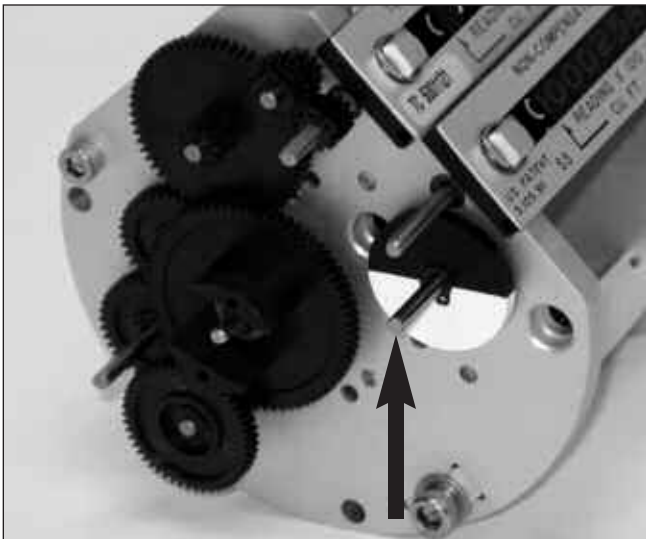

Figure 7 - Movement of the RPM wheel indicates impeller rotation.
- b) Partially open the meter inlet gas valve until the meter starts operating at low speed. Throttling the bypass valve may be necessary to initiate gas flow through the meter. Verify gas is flowing through the meter by watching for movement of the black-and white RPM wheel on the Accessory Unit. The wheel, shown in Figure 7, is visible from either the front or the side of the Lexan® cover on a standard counter meter. If movement is present, go to step c). If the RPM dial is not turning, verify gas is being delivered to the meter. If gas is flowing to the meter inlet and the RPM wheel is not moving, go to step e).
NOTE: On both Imperial and Metric versions, the high speed, black-and-white proving wheel attached to the end of the RPM drive shaft is visible either from the front or the end of the accessory and can be used for verification of unit operation and meter testing. Refer to “Proving Operations.” The wheel is also shown in Figure 7 in the “Meter Start-Up” section.